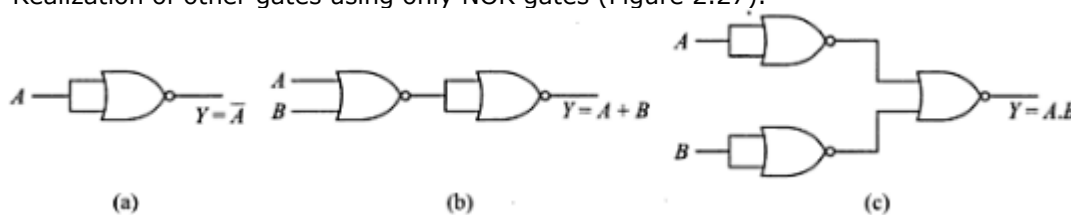

Figure 2.27: Universality of NAND gate (a)NOT from NAND (b)OR from NAND (c)AND from NAND
- Realization of other gates using only NAND gates (Figure 2.27).